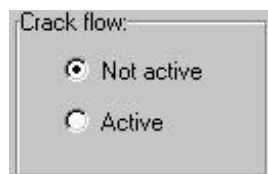

Figure 13.9
- e. Crack flow. In this section, the user specifies whether crack or by-pass flow will or will not be simulated. The user has two options, **Not active** or **Active** (Figure 13.9). To select an option, click the radio button adjacent to the option.